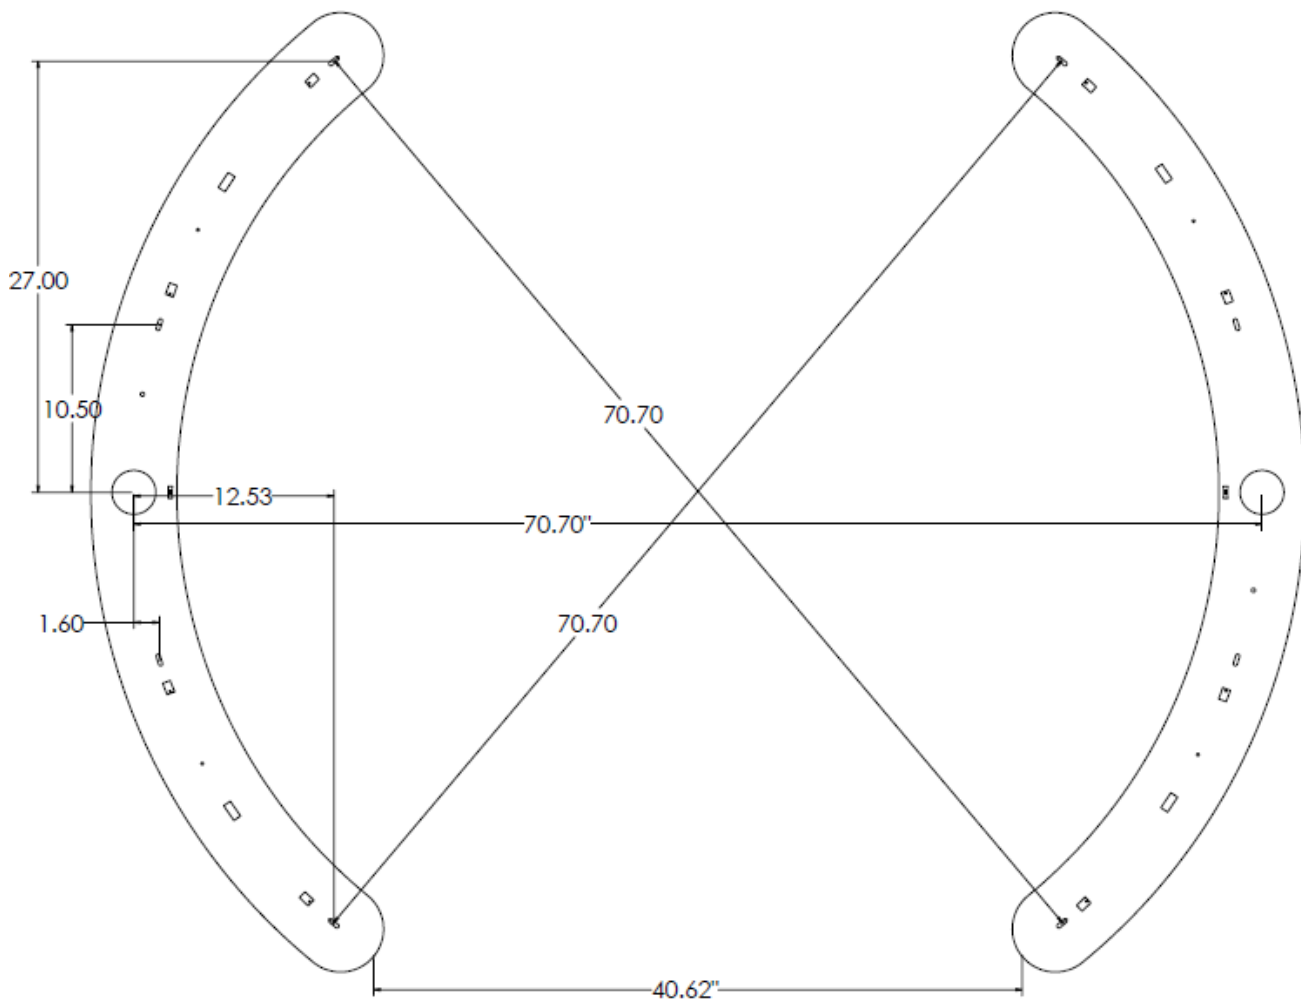

FIGURE 1
2. Place center of mount plate over designated j-box and secure to structure with hardware provided by others. Secure mount plates with hardware provided by installer (see Figure 1).